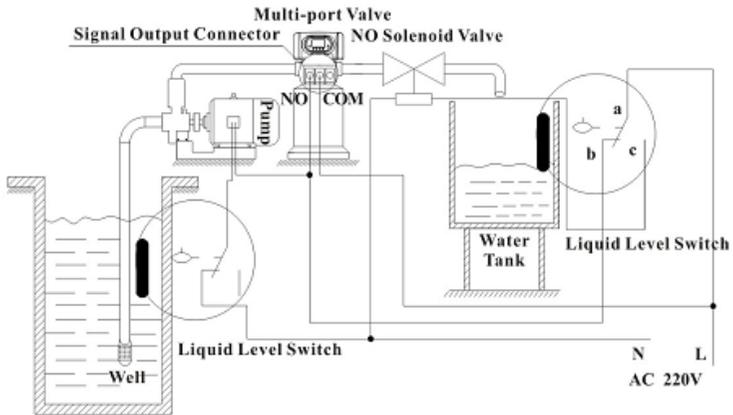

Figure 3-5 Wiring of Liquid Level Controller Controlling Inlet Pump
**Instruction:** For the system using ground water or middle-tank supplying water, users can turn on and turn off the pump by operating the switch of liquid level controller and valve. The wiring refers to Figure 3-5: